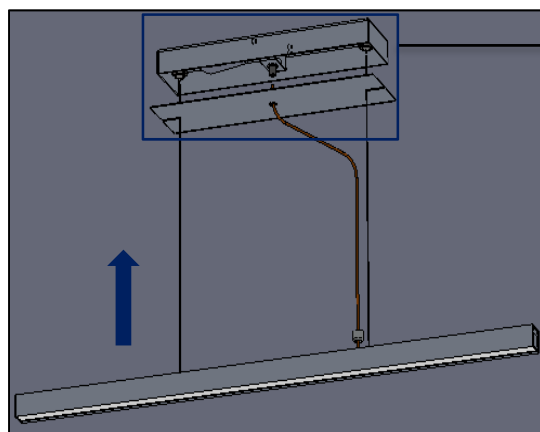

FIG. 10 - INSTALLATION VIEW
5. Raise the LINER LUMINAIRE up, with multiple people, to the ceiling and feed the AIRCRAFT CABLE through the GRIPLOCK and CORD through NIPPLE which is available in CANOPY SUBASSEMBLY. Adjust the AIRCRAFT CABLE to the desired length as shown in FIG. 10 & 11 below.